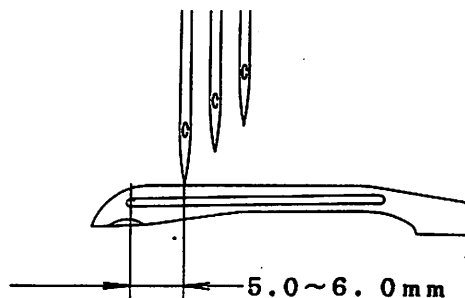

Fig.21
- * When the left needle comes down and its point is flush with the top of the looper blade, the distance between the looper eye center and the left needle centerline should be 5.0 ~ 6.0mm. (Fig. 21)